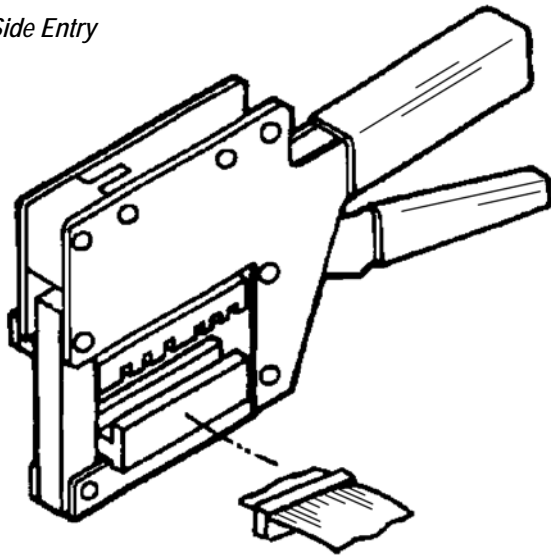

Figure 4
4.1. Side Entry (Figure 4)
1. Place product in platen block(s). See Figures 4 and 5 for side or front entry.